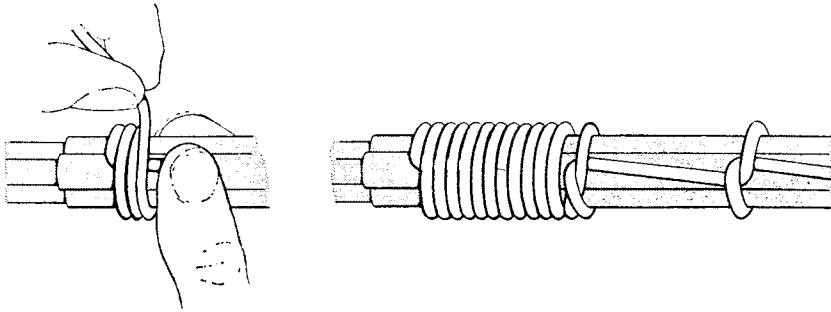

Fig. 29. Whipped start
(1) *Whipped start.* Hold one end of the cord on the cable and wrap about four turns tightly around the cable and over the cord (Fig. 29). When the end is well secured whip a further eight turns and make a lock stitch (the whipping can be continued for any distance required as a protection against chafing).